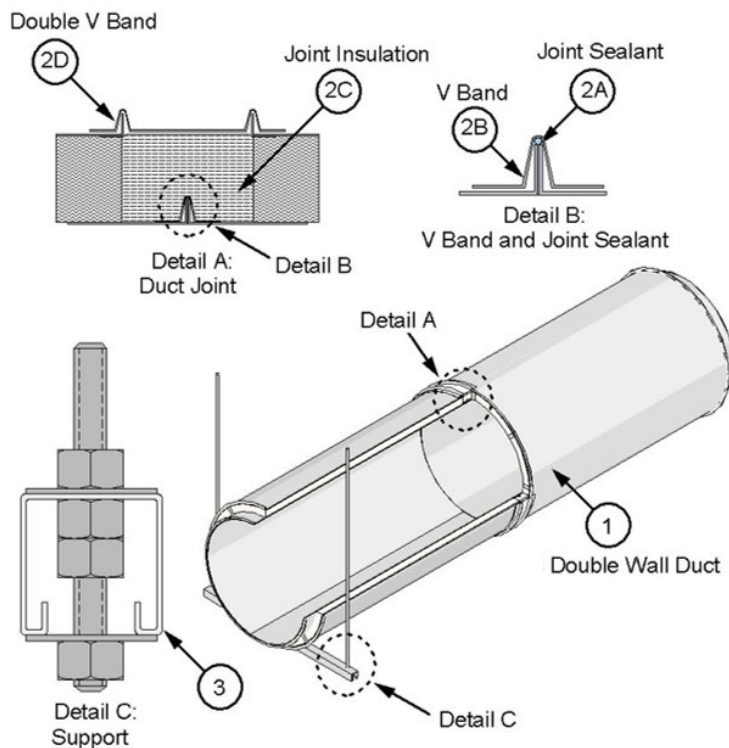

Figure 1. Double Wall Duct and Horizontal Support
B. V BAND – Use the supplied V band (see Figure 1). Place the loose V band, filled with joint sealant (Item 2A), over one of the inner duct flanges. Join to the other inner duct flange with the continuous bead of joint sealant (Item 2A) and rotate slightly to ensure complete coverage of joint sealant (Item 2A) on flanges. Ensure that the flanges are located within the V band and that the V band hardware is not at the bottom side of a horizontal duct. Tap the V band while tightening the integral 1/4-20
- D. **DOUBLE V BAND** – Use the supplied double V band (see Figure 1). Place double V band with outer shell flanges seated in the V band; tighten integral 1/4-20 hardware to 40-60 in. lbs.
- A. **HORIZONTAL SUPPORTS** – Support the prefabricated grease duct (Item 1) using min. 12 GA, 1-5/8 in. x 1-5/8 in. Unistrut® channel or 2 in. x 2 in. x 1/4 in. steel angle as the supporting cross-member and two, min. 1/2 in. diameter, threaded steel rods connected using Grade 5 hex nuts and 1/2 in. hardened washers (see Figure 1, Detail C). Connect the threaded steel rods to the bottom of the floor assembly using an attachment method designed to carry the weight of the prefabricated grease duct (Item 1) under a fire load equivalent to ASTM E 119 time-temperature curve for a 2-